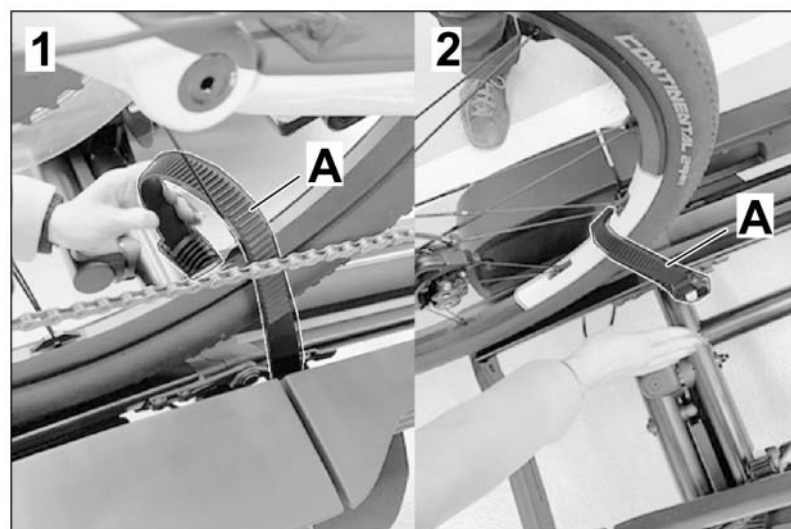

Figure 23
23. – Secure the front and rear wheels with the locking straps ⇒ *Figure 23 -LHD vehicle* - and insert and tension the locking strap. To loosen the locking straps, keep pressing the grey lock and pull out the locking strap.